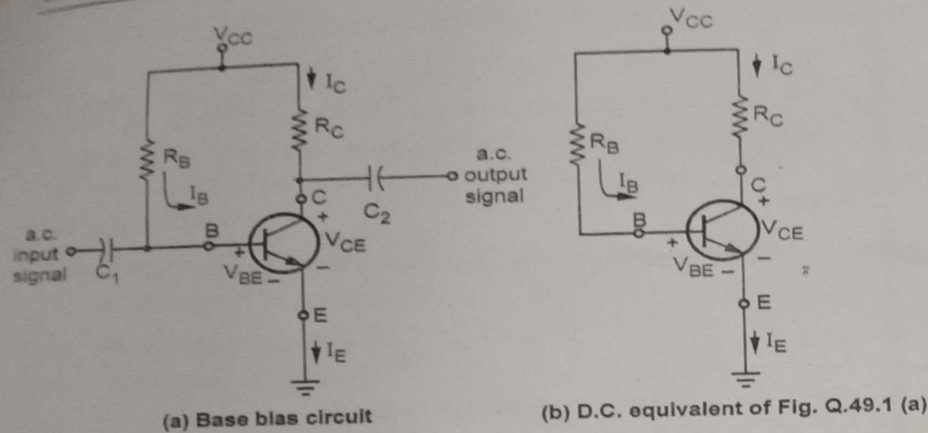

Fig. Q.50.1
Ans. : • The Fig. Q.50.1 shows the base bias circuit. It is also called fixed bias circuit. It is the simplest d.c. bias configuration. For the d.c. analysis we can replace capacitor with an open circuit because the reactance of a capacitor for d.c. is $X_C = 1 / 2\pi fC = 1 / 2\pi(0)C = \infty$.
• The d.c. equivalent of base bias circuit is shown in Fig. Q.50.1 (b).